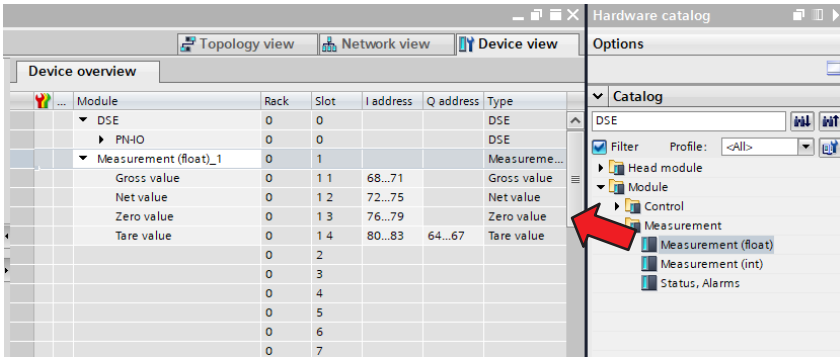

Fig. 6.9 Adding measurement signals
- ▶ Get the (start) addresses of the measured values from the list (Fig. 6.9). The Gross value is 68 ... 71, and the Tare value 80 ... 83.